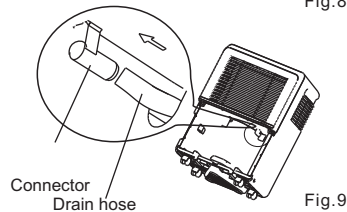

Fig. 9
- Remove the plastic cover from the back drain outlet of the unit and set aside and remove bucket, then insert the drain hose through the drain outlet of the unit and securely press it into the connector on the front of the unit. (See Fig. 9)